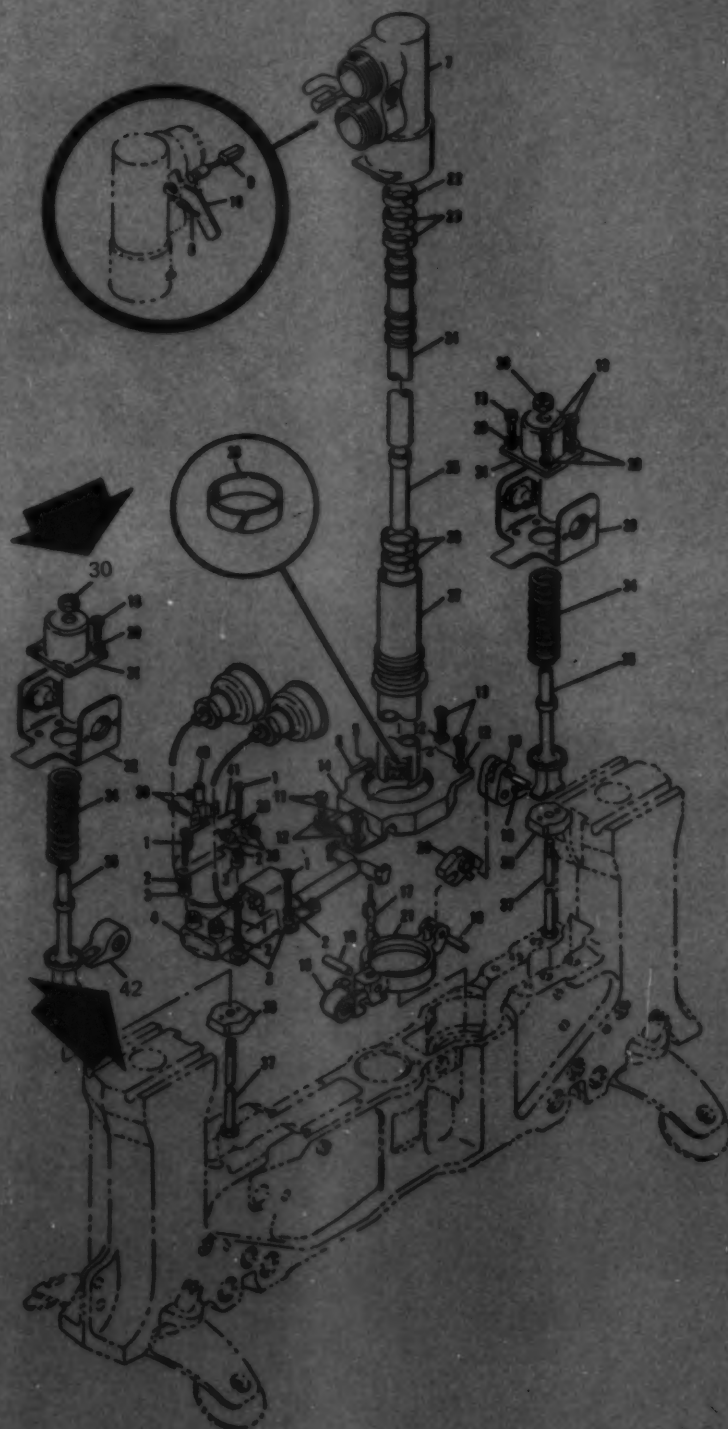

Fig. 1
The most probable reason is that the nut, Fig. 1 (item 30), was either missing — or ineffective in performing its designed function because of stripped threads. During the postaccident disassembly of the Aero-20A rack, it was noted that this nut was missing. This nut holds the forward hook sear on its spacer assembly. When the ejector cartridges fire, it causes the fork assembly, Fig. 1 (item 42), to rotate, lifting the sear from between the forward attaching hooks, allowing the attaching hooks to open and release the tank lug. Postaccident investigation revealed that with the nut missing, the sear will not be withdrawn from the attaching hooks. This can be more clearly visualized by referring to Fig. 2.